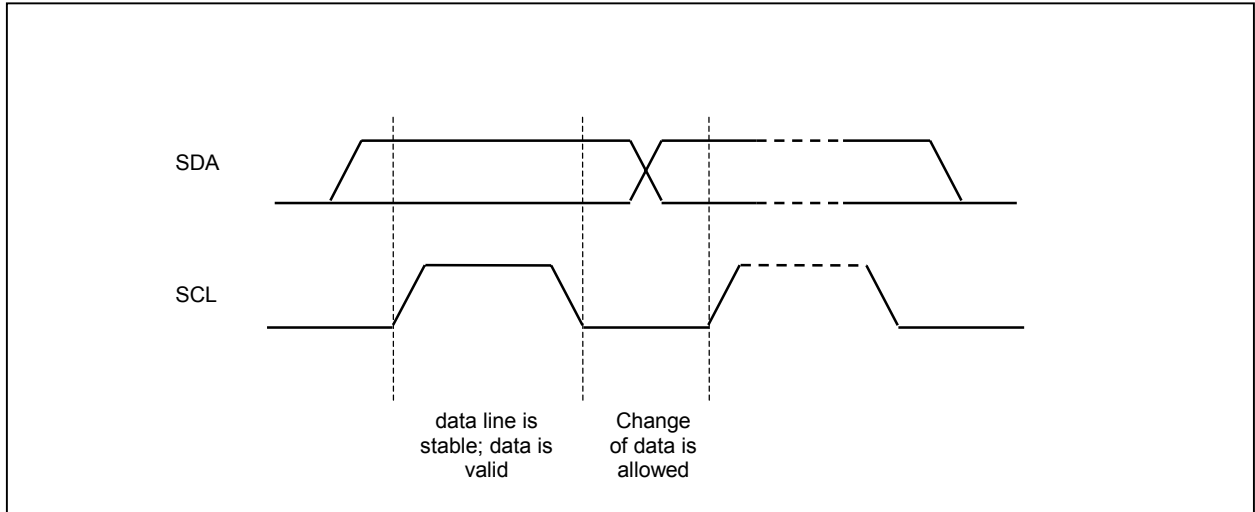

Figure 11 - Definition of the data transfer condition
1. The data bit, which is transmitted during each SCL pulse, must be kept at a stable state within the "high" period of the clock pulse. Please refer to the Figure 11 for graphical representations. Except in start or stop conditions, the data line can be switched only when the SCL is low.